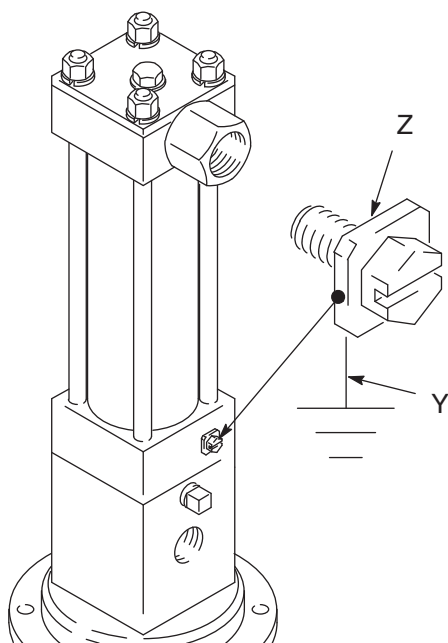

FIG. 1
To ground the pump: Remove the ground screw (Z) and insert through the eye of the ring terminal at end of ground wire (Y). Fasten the ground screw back onto the pump and tighten securely. Connect the other end of the ground wire to a true earth ground. (FIG. 1)
Pump: Use ground wire and clamp as shown in FIG. 1.